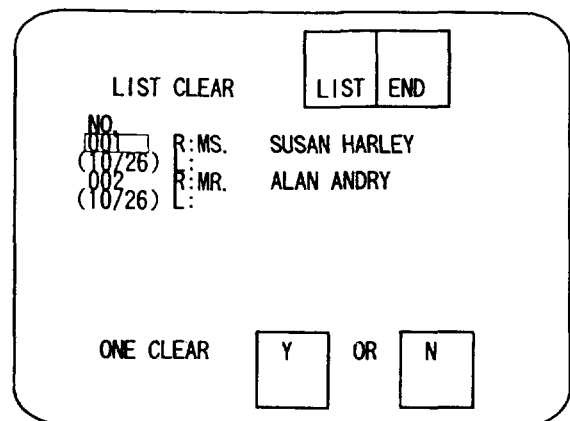

Figure 5-14 Y and N Keys
* The [Y] and [N] keys will appear when you press the [ONE], [PAGE] or [ALL] key (see Figure 5-14).